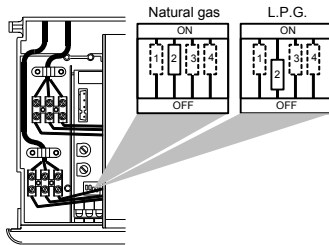

Figure 16.5
- Set correctly the dip-switch "2" to the correct position (Fig. 16.5) in accordance with the following table.